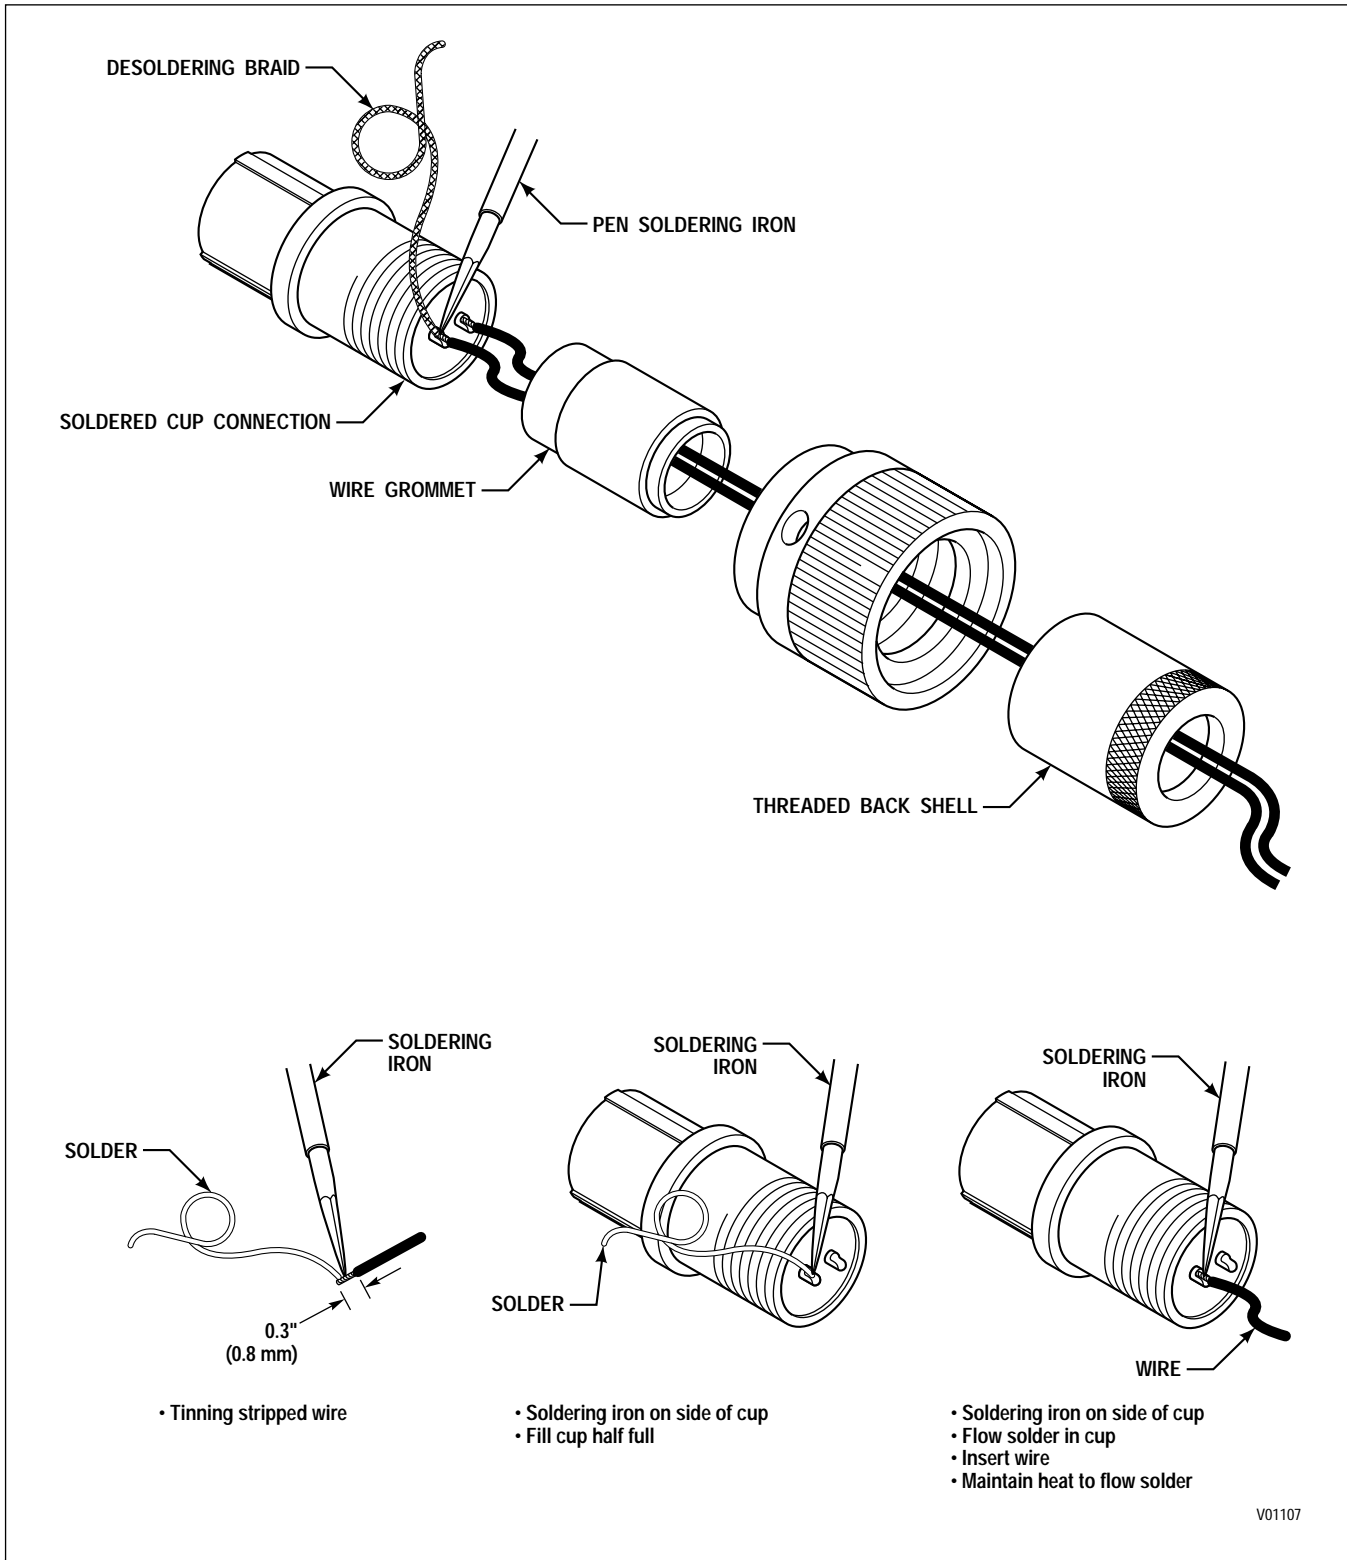

Figure E-11. ITT Cannon Connectors — Soldered (2-Way HD Retarder)
#### A. Connector Terminal Repair (refer to Figure E-11)
**APPENDIX E — CONNECTOR PART NUMBERS, TERMINAL PART NUMBERS, TOOL PART NUMBERS, AND REPAIR INSTRUCTIONS****C. Terminal Crimping (refer to Figure E-11, View C) (cont'd)**
2. Push the terminal and wire into the connector until it locks into position (refer to Figure E-11, View A). Check to see that the terminal is at the same height as other terminals. Tug on the wire at the rear of the connector to ensure that the terminal is locked in place.